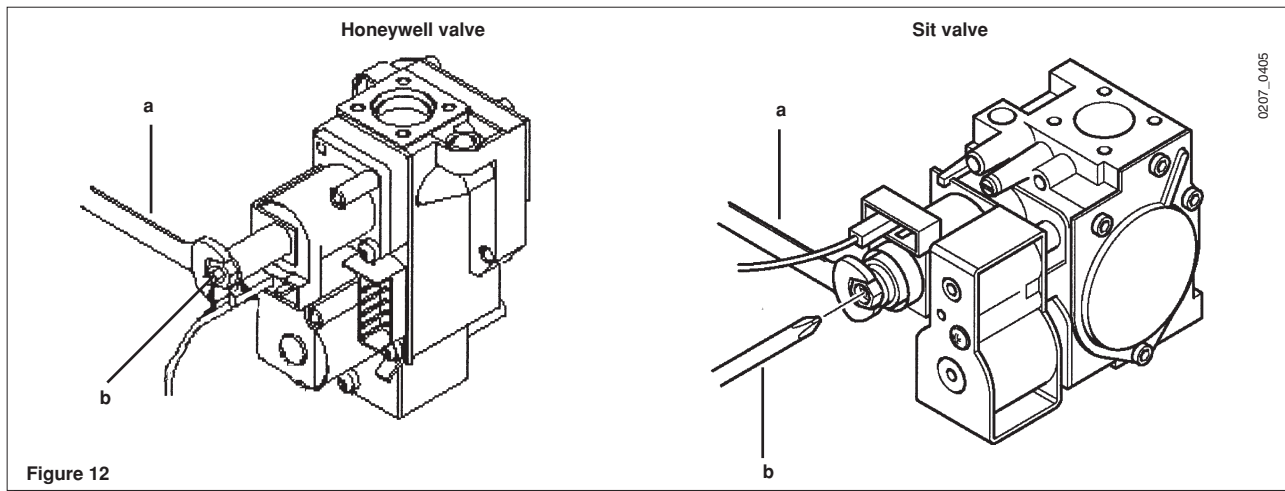

Figure 12
- adjust the screw (A) Fig. 12 to obtain the pressure settings shown at table 1 on page 44;
- check that boiler feeding dynamic pressure, as measured at the inlet gas valve pressure test point (Pa) (Figure 12) is correct (30 mbar for G30, 37 mbar for G31, 20 mbar for natural gas);
- detach the modulator feeding cable and unscrew the screw (B) Fig. 12 to reach the pressure setting corresponding to reduced heat output (see table 1 on page 44);